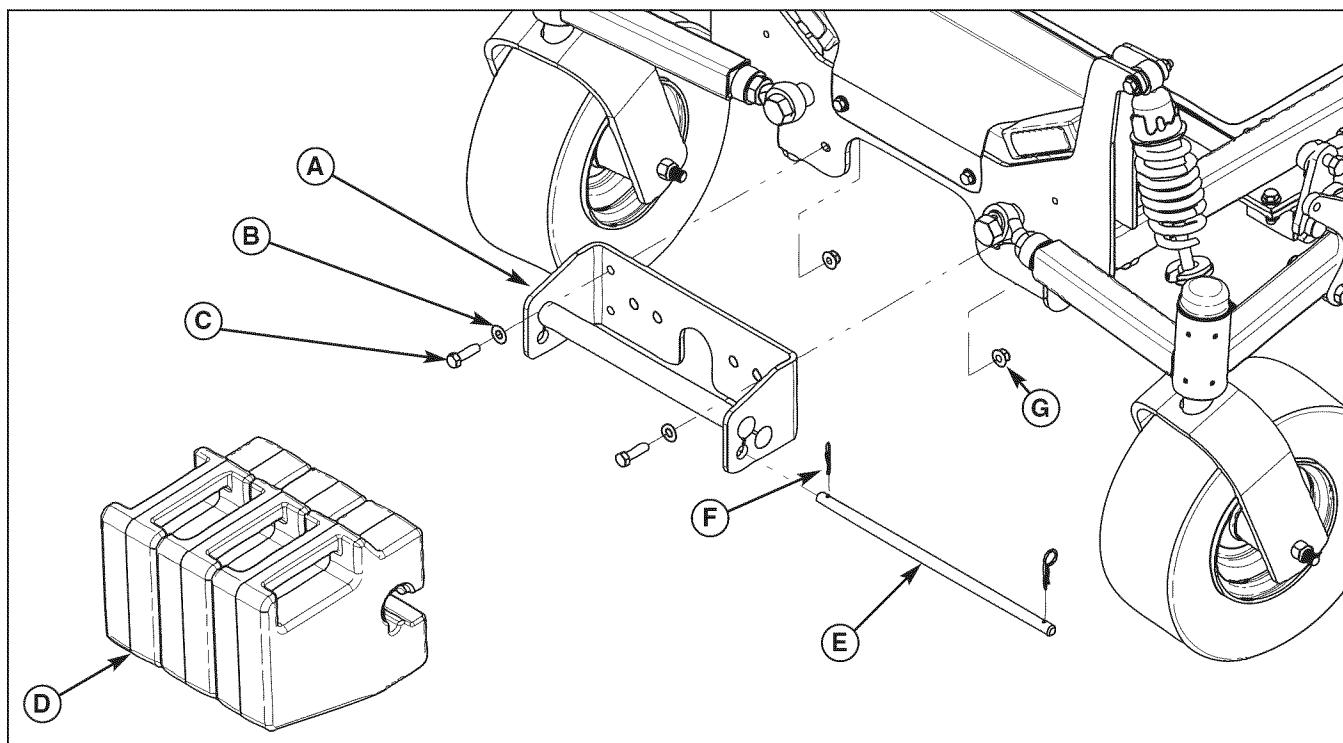

Figure 52. Install Weight Carrier
1. Install the weight carrier (A, Figure 52) onto the front of the unit and secure with the 3/8-16 x 1-1/4" bolts (C), 3/8" washers (B) and 3/8-16" nylock flange nuts (G).
*NOTE: Use top holes in the weight carrier for the IS2000Z Series (as shown in Figure 52).*
2. Install the counter weights (D) in the weight carrier and secure with the retaining pin (E) and hairpin clips (F).